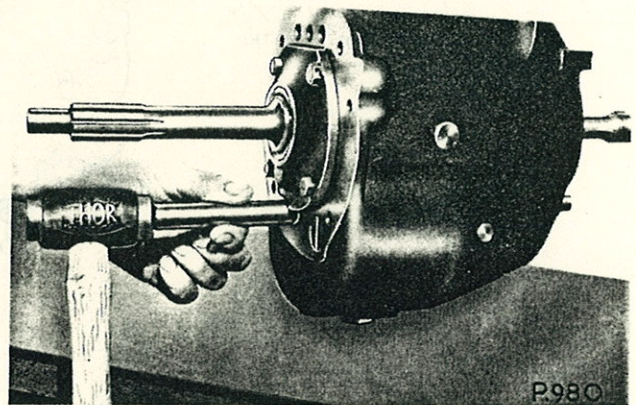

Fig. E.8. Tapping out the layshaft spindle using the dummy spindle
14. The layshaft spindle can then be removed by tapping out from the front to the rear using the dummy layshaft spindle described at the beginning of this section (see Fig. E.8). Remove the layshaft spindle and allow the layshaft cluster gear to be lowered into the bottom of the gearbox casing with the dummy spindle.